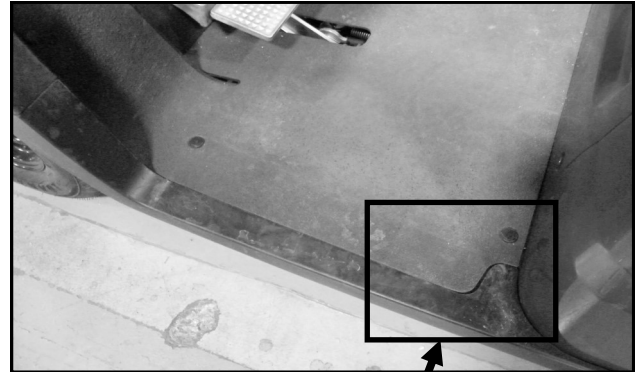

Fig. 1.5a (floor mat - left side)
**1.5** Per figures 1.5a and 1.5b, peel up the back corners of the floor mat and remove the (2) plastic plugs and discard.